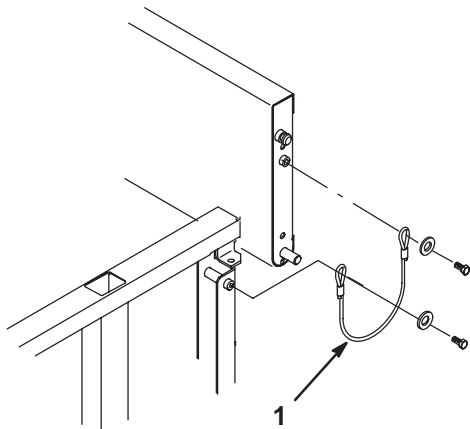

Figure 4
10. Mount each end of lanyard to side panel and tailgate with a 5/16–18 x 5/8” lg. capscrew and flat washer (Fig. 4).